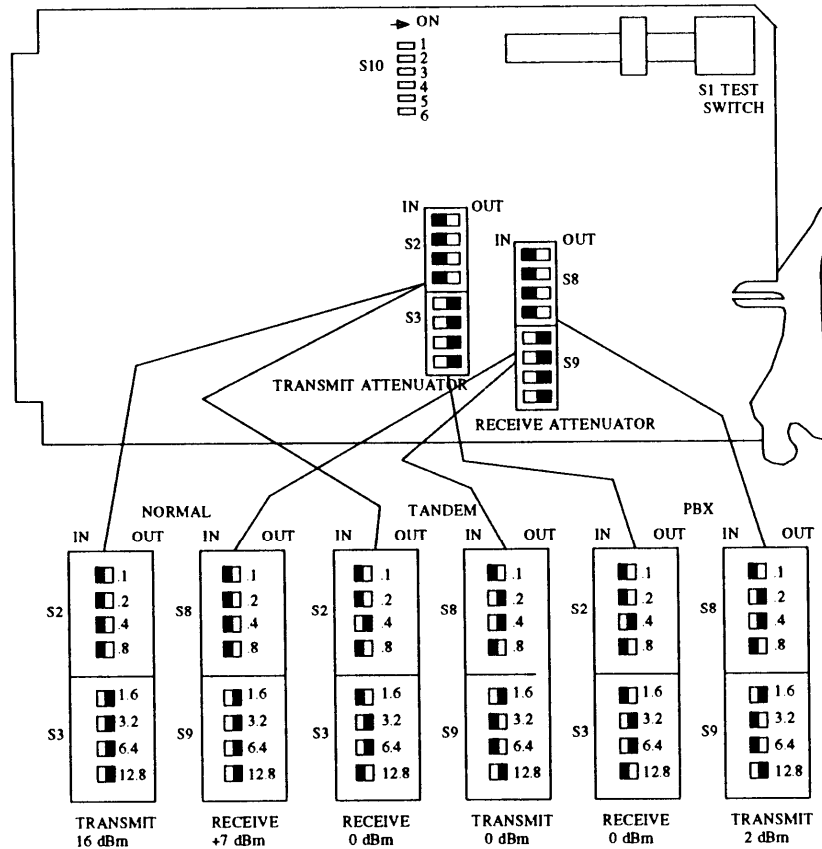

Figure 13-17. 30003-002 4-Wire E&M Channel Unit
- a. For No 30003-002 (figure 13-17), connect a dB meter (600-ohm bridged) to J2. From a distant end transmitter, transmit a 1004-HZ signal at the proper system level. Set the switches on S8 and S9 to achieve the proper system level.
- a. For No. 30003-002 (figure 13-17), insert a 1004-HZ signal at the proper system level into the channel. Connect a dB